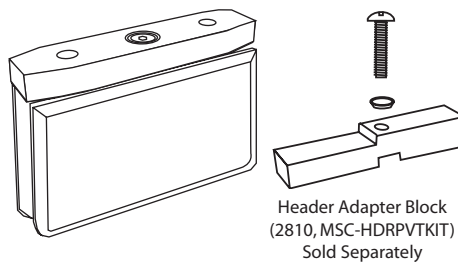

Figure 2 - Disassembly of Pivot Hinge
1. Remove pivot block from hinge as shown in figure 2. Discard block, screw and pocket washer.